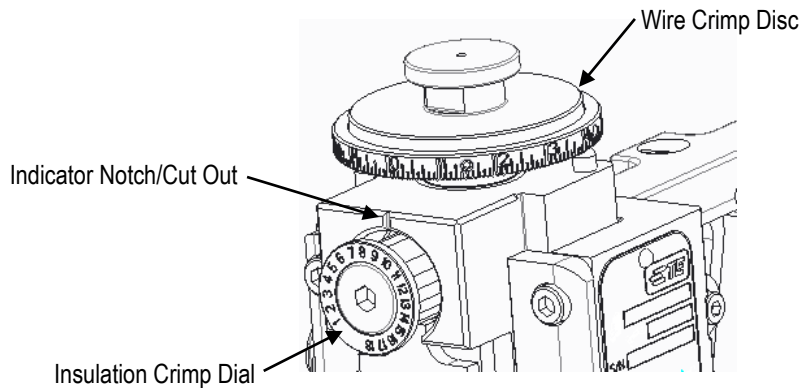

Figure 8
3. Turn the wire crimp disc to line up with the specified increment number with the indicator notch/cut out on the front of the ram. This provides the right crimp height for that wire (see Figure 8).